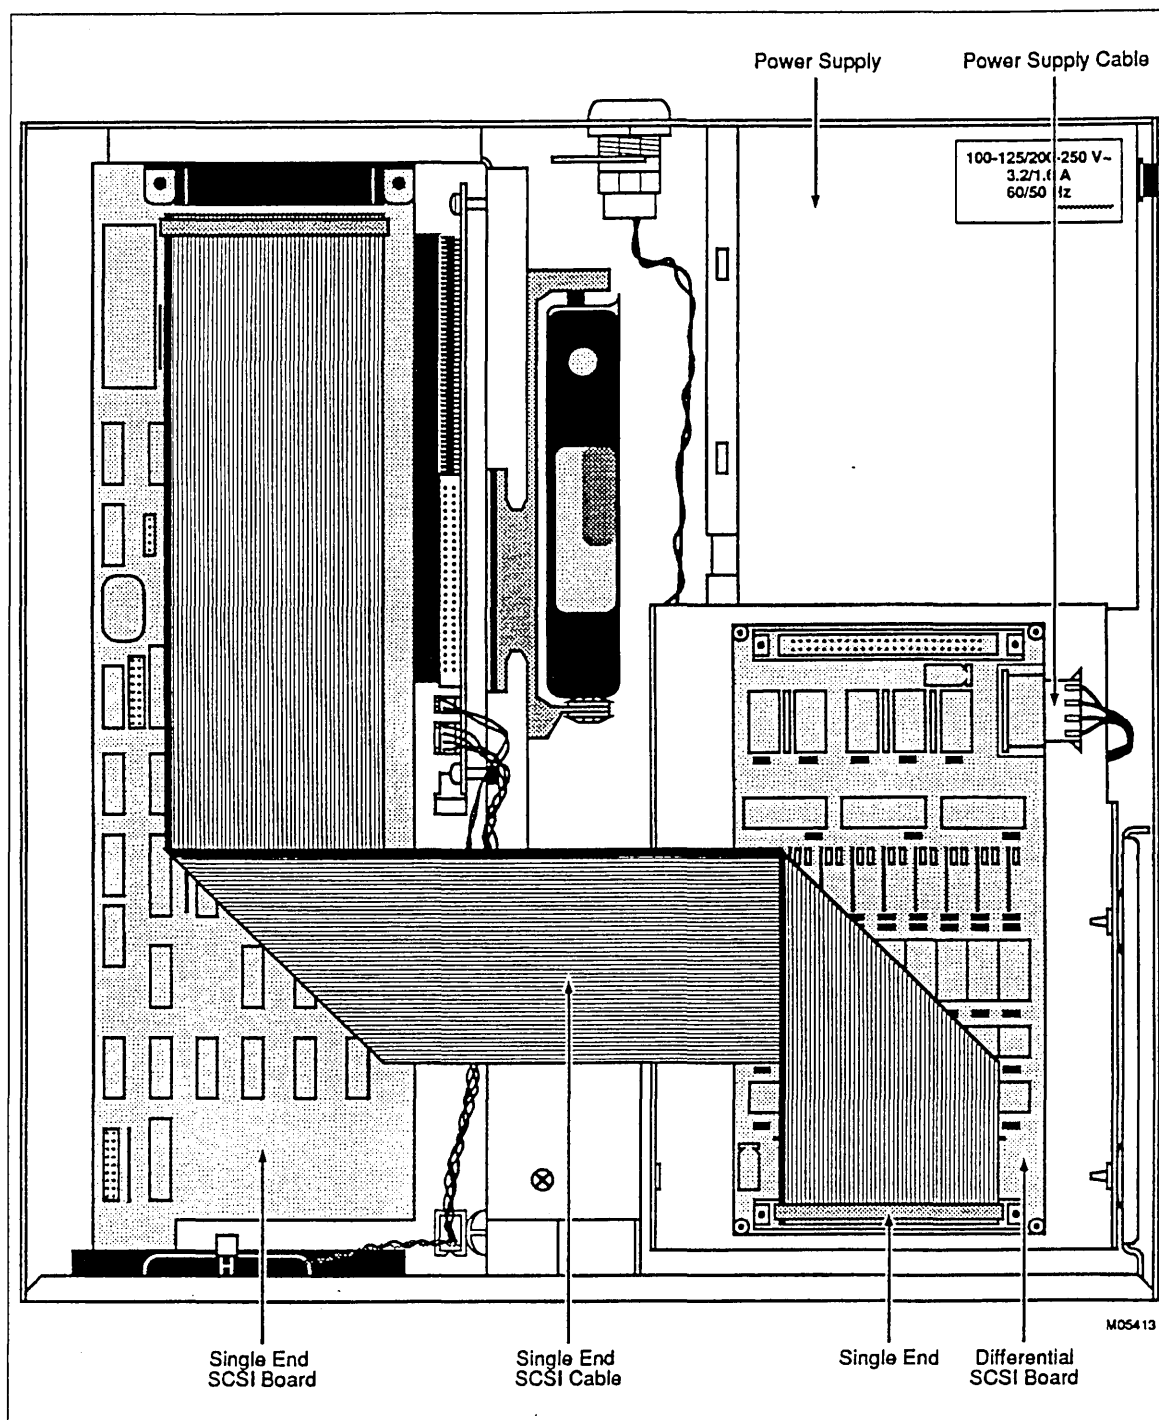

Figure 7-12. Connections for SE Differential SCSI Board
Remove and replace the differential Small Computer Systems Interface (SCSI) board according to the following procedure (see figure 7-12).
- ___ 3. Mark the single-ended and differential-ended ribbon cables attached to the differential SCSI board (see figures 7-12 and 7-13), then disconnect both cables (note that the colored stripe on the ribbon cable aligns with pin 1 of the connector). Disconnect the power cable connection.